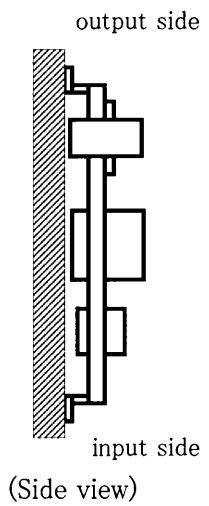

Fig.1.1 Mounting method
- (1) Input : DC36-76V
- (2) Output : Rated output
- (3) Mounting method : Shown as Fig.1.1